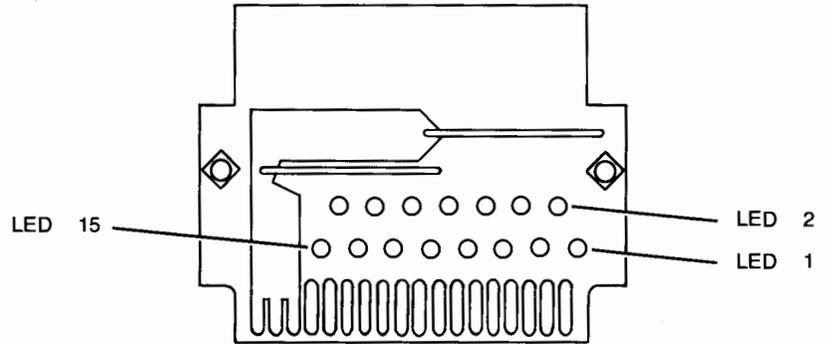

Figure 6-6. Head Load Assembly
4. With component side up, plug the long connector side of the Head Load Assembly (figure 6-6) into TPM PCA connector (slot in TPM mainframe). Ensure that the Head Load Assembly is seated fully into TPM mainframe.